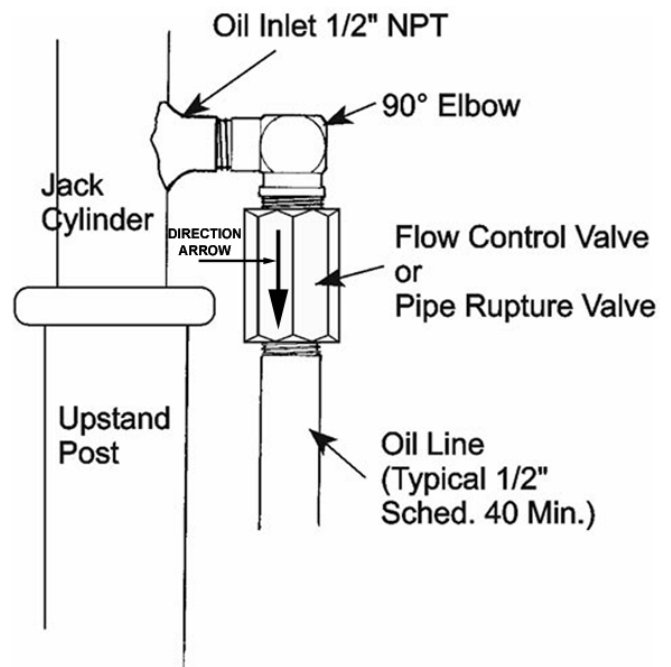

Figure 48 Steel Piping
- 1) The steel oil line must be securely supported to reduce noise and eliminate vibration that may loosen or damage fittings and connections. Support the steel pipe on the upstand post and clip it to the hoistway wall using insulating clips (Figure 48).